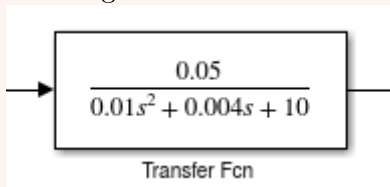

Figure 7.
1. Implement both the controlled system ( $H(s)$ ) and the PID controller ( $C(s)$ ) as a “Transfer Fcn” (Figure 7, or as you want).